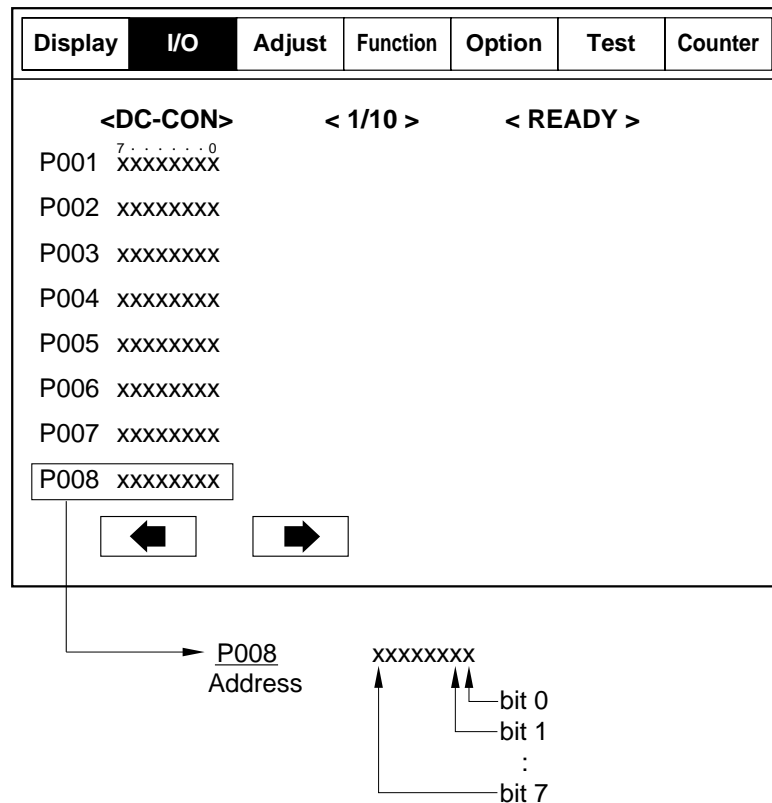

Figure 2-13
- 2) Select COPIER>I/O>DC-CON or R-CON in sequence to bring up the screen shown in Figure 2-13.